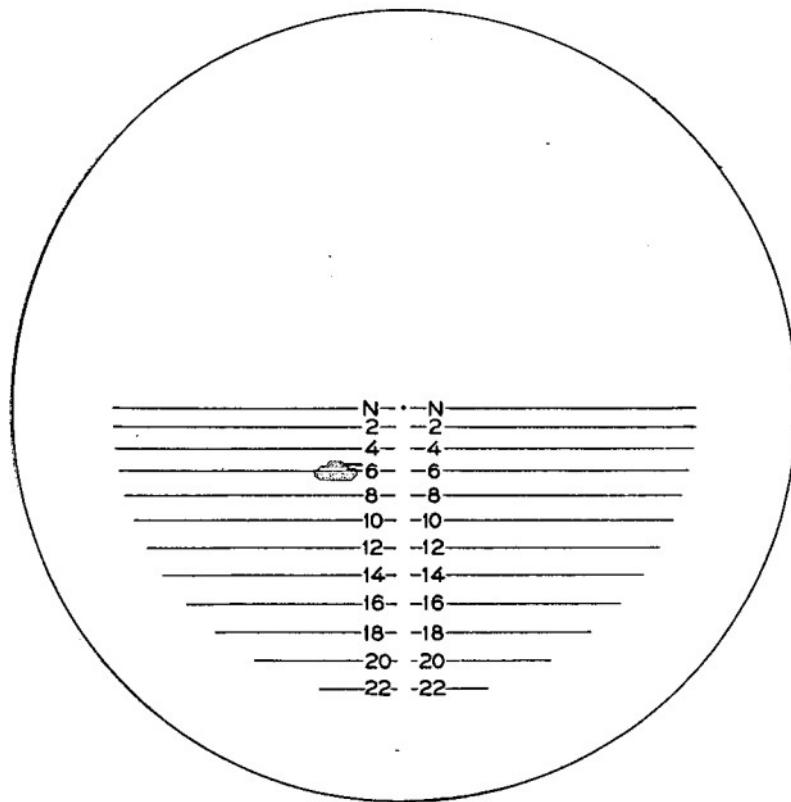

Figure 20. No. 1's sight picture, two-man, two-sight system (range 600 yards).
(2) *Detailed description of certain duties.* *To lay for range, using elbow telescope.* In direct laying, when so directed, No. 1 lays for range (with the correct angle of site automatically applied) by using the appropriate range line in the reticle of the elbow telescope. No. 1, using the elevating handwheel, keeps the range line corresponding to the announced range on the center of the visible mass of the target (fig. 20).
- d. No. 5. (1) *Enumeration of duties.* (a) To open and close the breech.